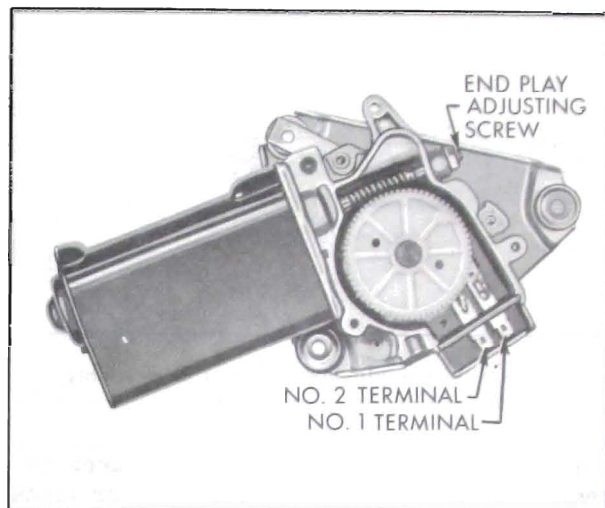

Figure 1-13--Checking Wiper Motor
Open--Using a test lamp check between terminals 1 and 2 (Figure 1-13). If lamp fails to light an open field is indicated.
Grounded--Unsolder motor lead from No. 1 terminal (Figure 1-13) and connect test lamp between disconnected lead and the motor frame. If test lamp lights a grounded field is indicated.
a. Check that wiper motor lead that connects to No. 1 terminal (Figure 1-13) is not grounding on motor frame.
1. Armature End Play -- Loosen end play adjusting screw lock-nut (Figure 1-13) and tighten the adjusting screw until finger tight. Back off 1/4 turn and tighten lock-nut.